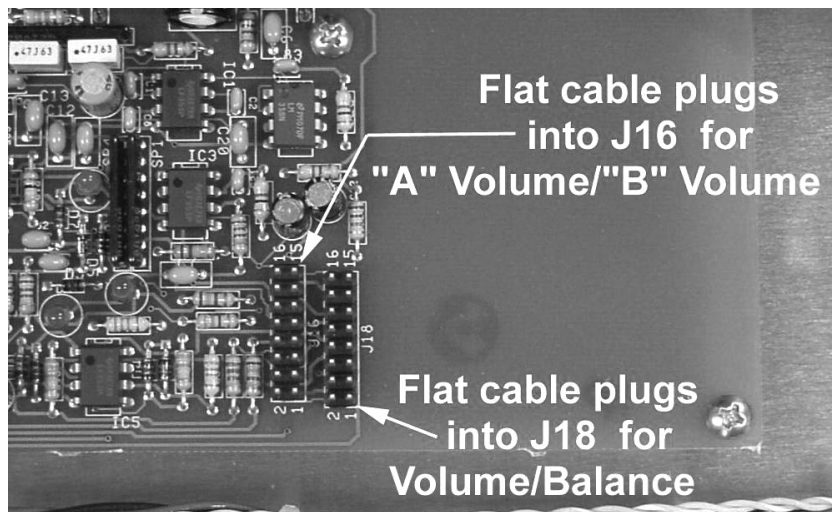

Figure 1-6: Unplug the cable from jumper 18 and plug it into jumper 16
4. On the Main PCB, unplug the harness ribbon cable connector from J18 and plug it into J16 (See Figure 1-6).